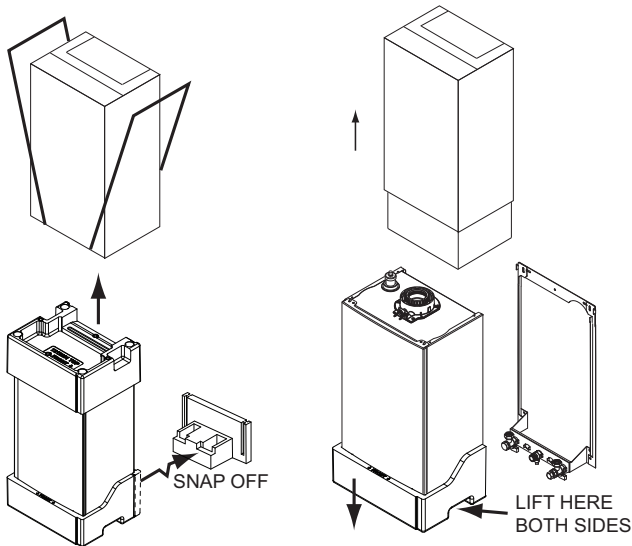

Fig. 18
2. Follow the procedure on the carton to unpack the boiler or see Fig. 18.